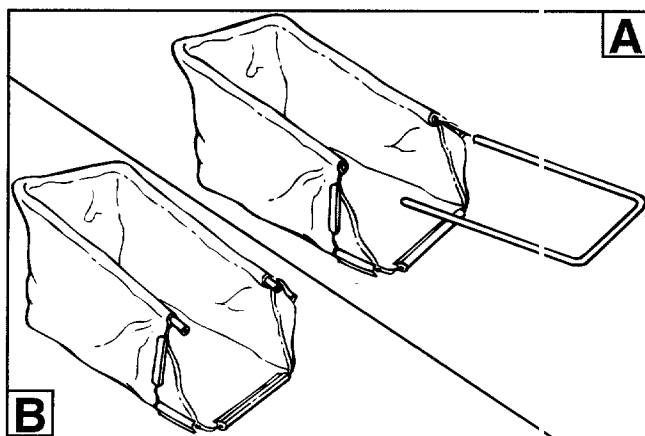

FIGURE 3.
1. Insert one end of the rear frame into the cloth channel on the edge of the grass bag. See figure 3.